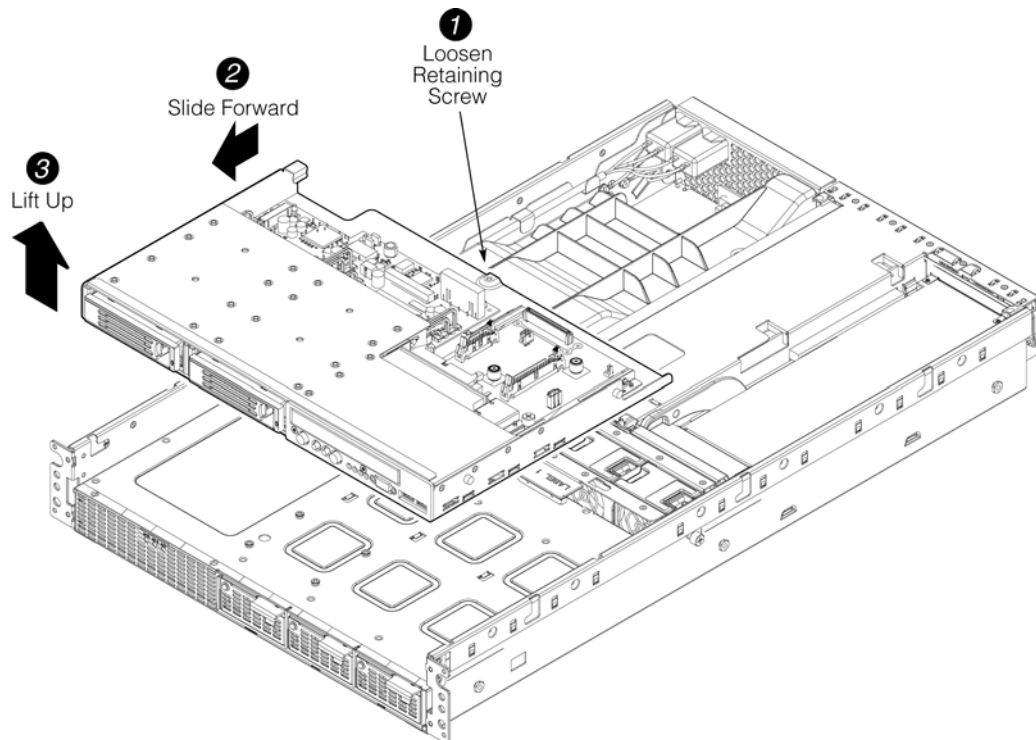

Figure 69. Removing the Peripheral Bay
Remove the peripheral bay from the chassis to service the peripheral board or the DVD-ROM / CD-ROM drive. To remove the peripheral bay, see *Figure 69* and perform the steps outlined below:
6. Loosen the captive screw on the rear peripheral bay located near the center of the fan bay. See number 1 in *Figure 69* to locate the screw.